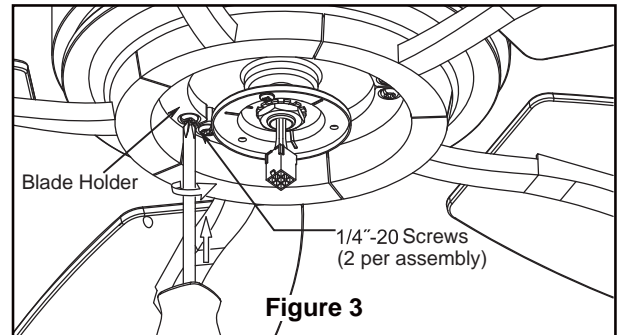

Figure 3
3. Secure the blade holders to the bottom of the motor assembly using the 1/4"-20 screws. (Figure 3)